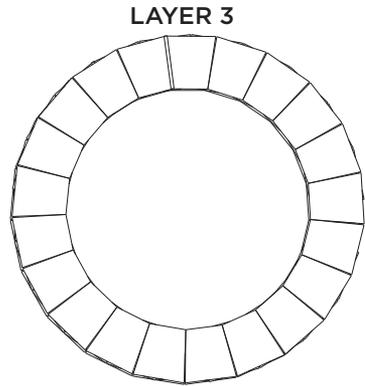

Figure C.3
- Follow diagram on figure C.3